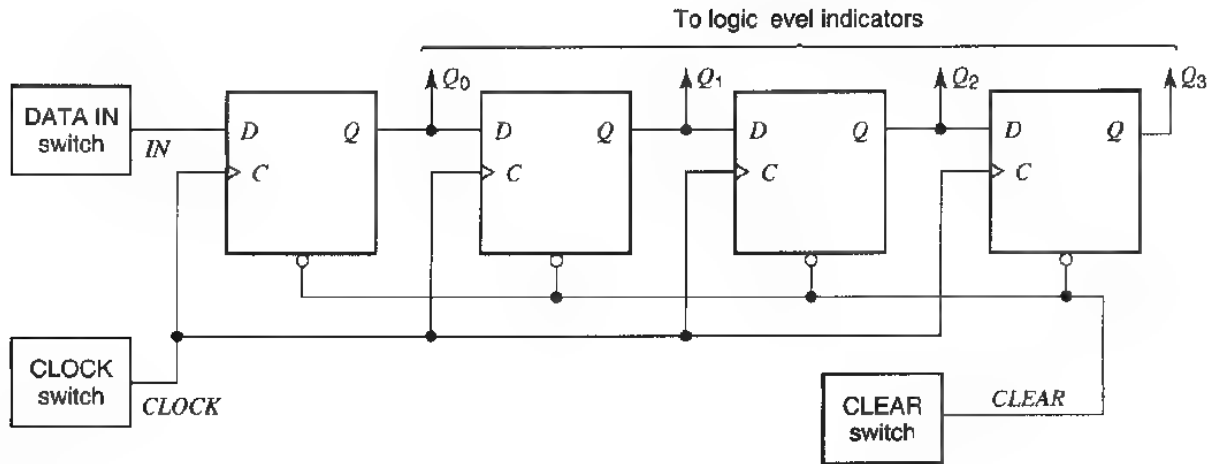

Fig. 7
10. Consider the four-stage shift register in Fig. 7, but *do not build it yet*. Assume that all outputs are cleared and then a 1 is placed at the input IN . Assume that the clock button is pressed and released *once*. What will the values of Q_0 , Q_1 , Q_2 , and Q_3 become? [Hint: When the clock goes from low to high, each flip-flop transfers to its Q the value that existed at its D just before the clock transition; see Fig. 2(b).]
11. Now build the circuit of Fig. 7. All four D flip-flops needed can be found inside the same 74LS175 chip, the pin assignment for which was given in Fig. 4. It will help if, before starting to build the circuit, you mark Fig. 7 with the appropriate pin numbers from Fig. 4. *Be sure to connect the ground and supply pins.* If no logic level indicators are provided on your breadboard, use four indicators of the type shown in Fig. 5.
19. Lower the frequency of the signal to 1 Hz. *Disconnect the clock switch circuit from the input of the shift register of Fig. 7, and connect instead your function generator output to it, as shown in Fig. 8.* The LED at the function generator output should be lighting up 1 time per second.